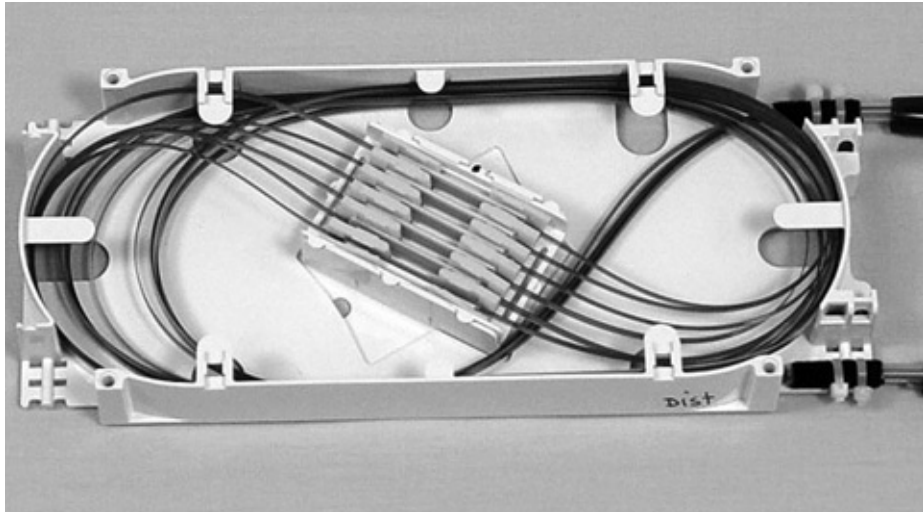

Figure 34. Example of Completed Splice
10. Figure 34 shows a completed splice tray.